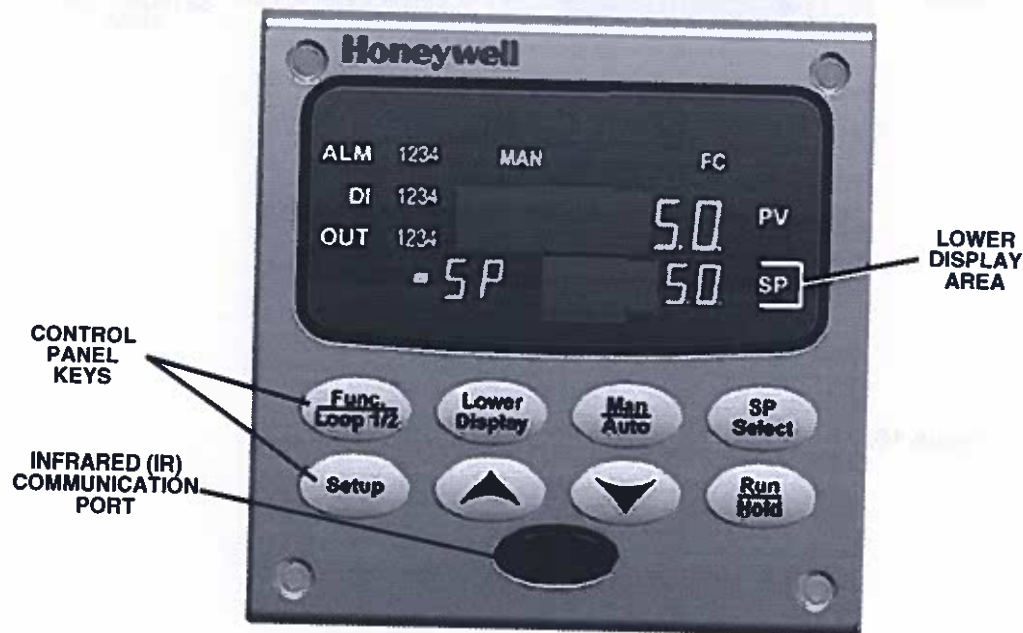

Figure 11. Control Panel Keys on a Honeywell Controller
The control panel typically contains the keys necessary to navigate the different programming groups of the controller. The control panel may also include some type of communication port such as an infrared (IR) port. For example, the control panel of the Honeywell UDC 3500 controller shown in figure 11 consists of the following: